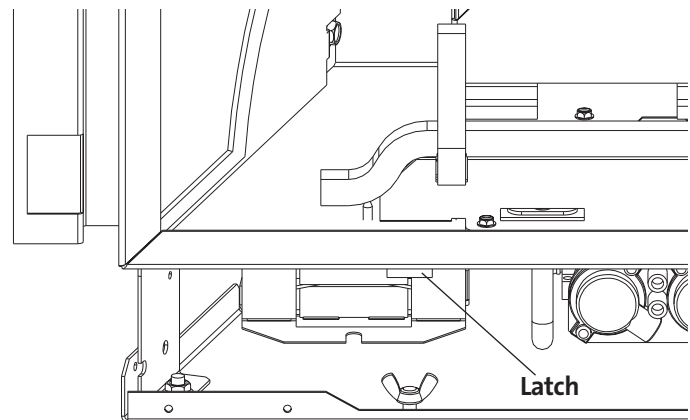

Figure 13. Glass frame latch locations.
2. Remove the glass frame. Use the latch release tool, provided with the insert, to release the two latches located on the underside of the firebox floor. Engage the tool with the latch and pull it forward and down to release. See fig. 13.